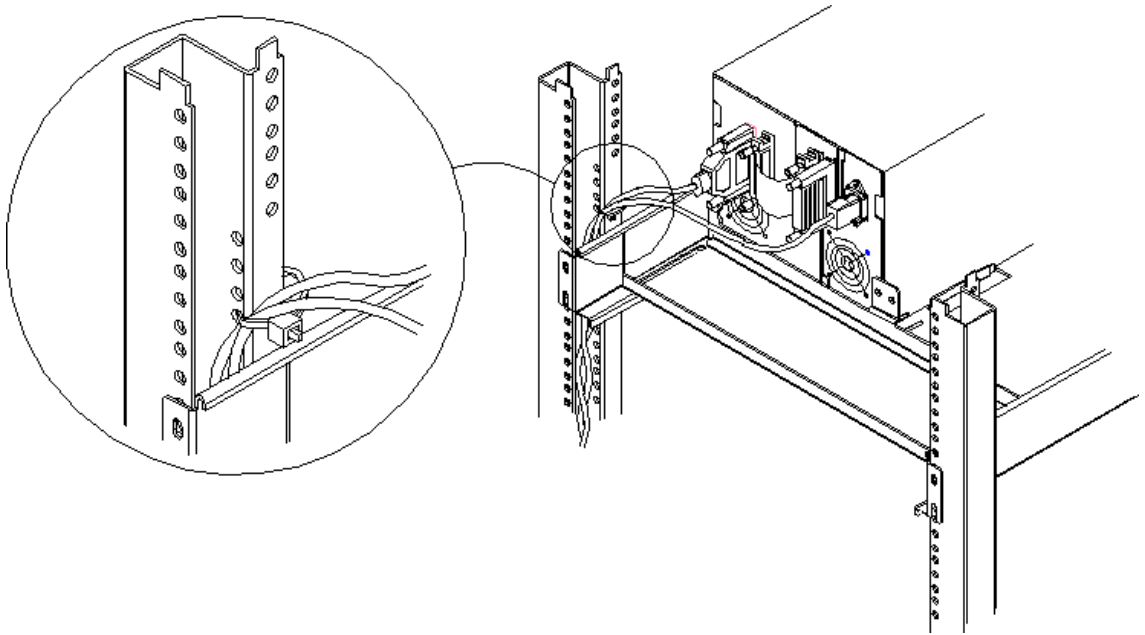

FIGURE 1-9 Cable Management
1. After connecting the external cables in Section 1.3, "Connecting the Autoloader," on page 1-15, thread a cable tie through the metal rail inside the rack (FIGURE 1-9).